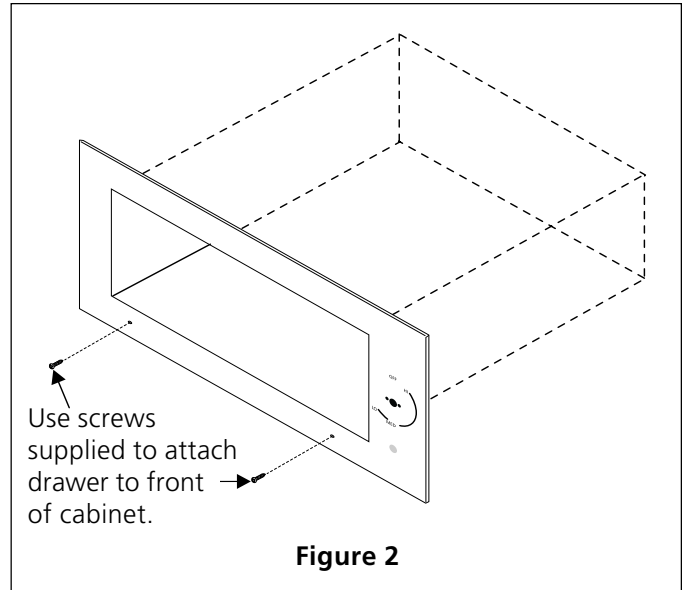

Figure 2
3. Remove the drawer as instructed in the Use & Care Guide and secure drawer housing to cabinet using the 2 nickel-plated screws supplied (see Figure 2).